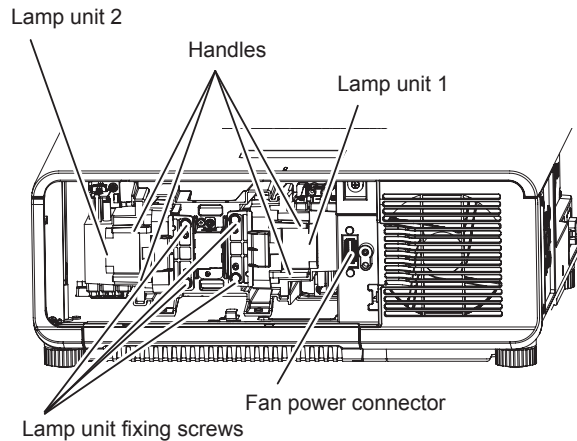

Fig. 2
#### 2) Pull out the air filter case. (Fig. 2)
- 3) Remove the lamp unit. (Fig. 2)**